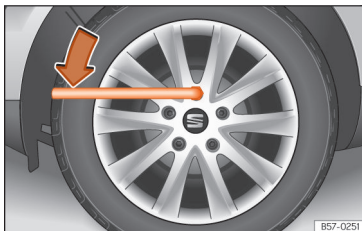

Fig. 36 Wheel change: loosen the wheel nuts.
- Fit the wheel wrench on as far as it will go »» Fig. 36.